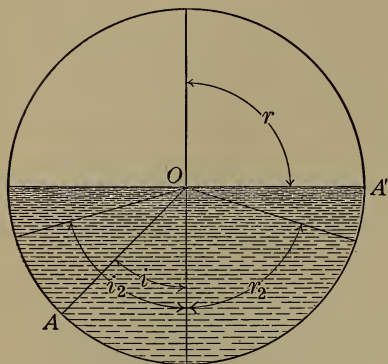

FIGURE 87. — DIAGRAM EXPLAINING TOTAL REFLECTION.
**130. Total Reflection.** — Angle  $i$  (Figure 87) is the critical angle, and so the refracted ray  $OA'$  passes out along the surface of the dense medium, making the angle of refraction ( $r$ ) equal to  $90^\circ$ .